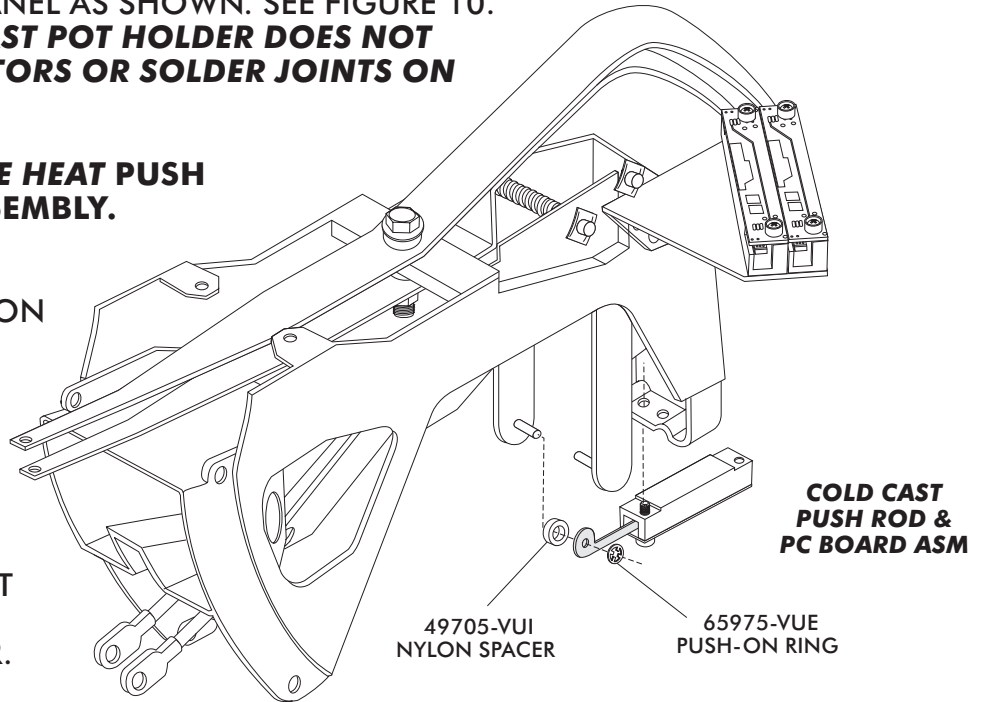

FIGURE 10
- HOLDING THE COLD CAST PUSH ROD & PC BOARD ASSEMBLY TOGETHER; THREAD THE #8 x 1.25" SELF TAPPING SCREW WITH NYLON CUP WASHER INTO THE CONTROL PANEL AS SHOWN. SEE FIGURE 10.
- INSTALL 1/8" SPACERS ON LEVERS AS SHOWN IN FIGURES 10 & 11 BELOW.